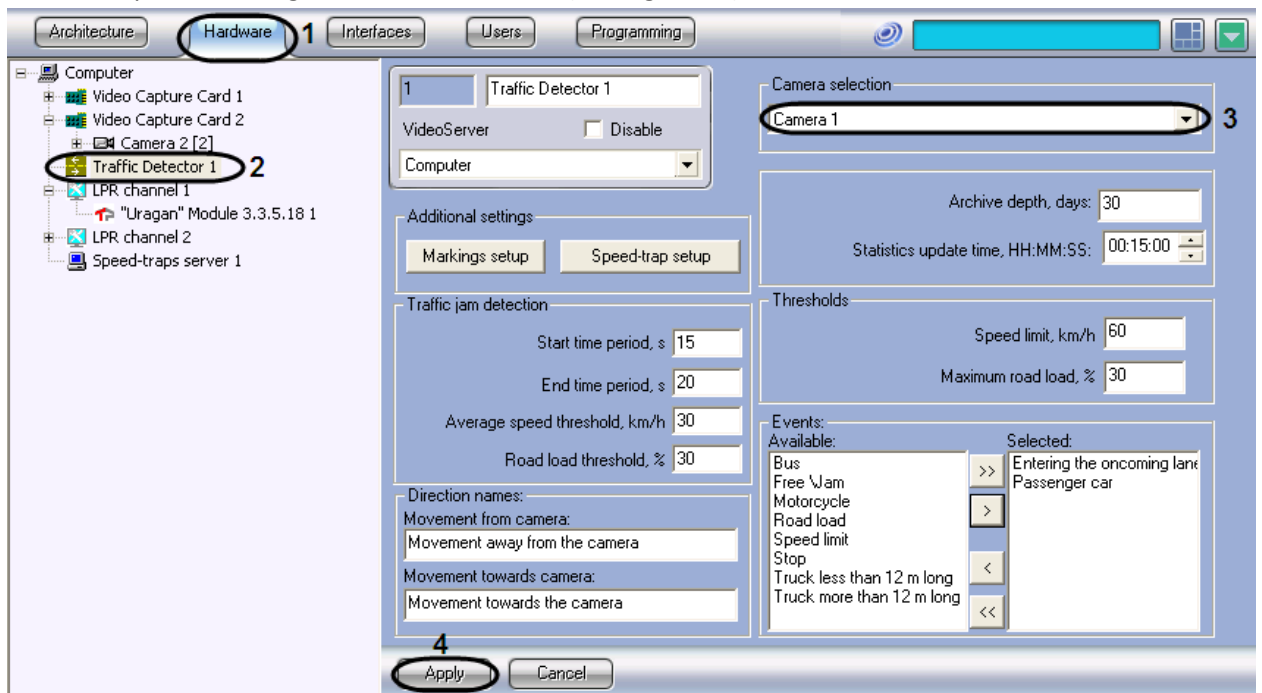

Fig. 7.4-1 Selecting the Camera object to be used with Traffic Detector
2. In the object tree on the left side of the Hardware tab, select the Traffic Detector object representing the Traffic Detector module to be set up. The settings panel of the selected object will open on the right side of the window (see Fig. 7.4-1).